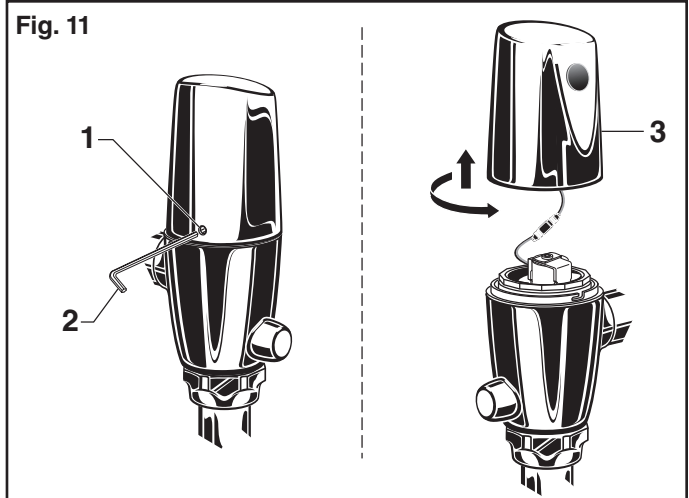

Fig. 11a
3. Turn COVER (3) over and disconnect the SENSOR (4) from the BATTERY HOLDER (5). Remove the BATTERY CONTAINER (6) with BATTERY HOLDER (5) and BATTERY (7) inside. **Fig. 11a.**
4. Remove BATTERY HOLDER (5) from BATTERY CONTAINER (6). **Fig. 11a.**
5. Remove old BATTERY from BATTERY HOLDER (5). Install the new BATTERY (7) making sure the shape of the BATTERY follows the shape of the BATTERY HOLDER (5). **Fig. 11a.**
6. Insert BATTERY HOLDER (5) with BATTERY into BATTERY CONTAINER (6). Insert BATTERY CONTAINER (6) into flush valve COVER (3). **Fig. 11a.**
7. Connect BATTERY HOLDER (5) to SENSOR (4) and reverse the above steps to assemble flush valve. **Fig. 11a.**